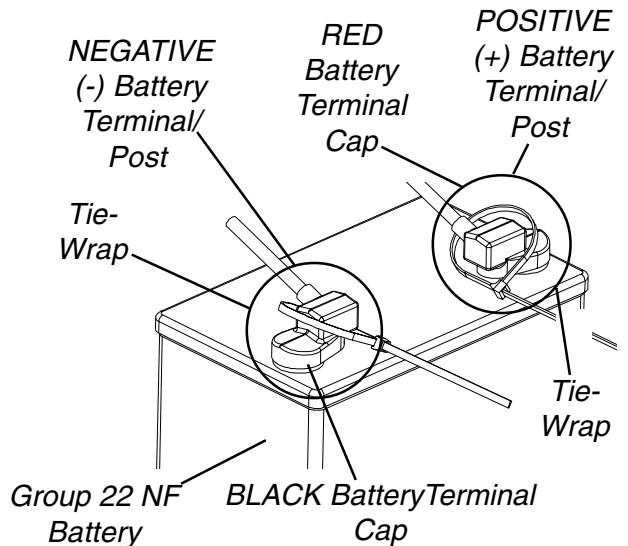

FIGURE 3 - CONNECTING BATTERY CABLES - DIRECT MOUNT METHOD
3. Secure the battery cable(s)/ring terminal(s) to the battery terminal(s)/post(s), BLACK to NEGATIVE (-) and RED to POSITIVE (+), with the provided 1/4-20 x 7/8-inch hex flange screw and hex flange locknut. Securely tighten. (DETAIL "A" or DETAIL "B" of FIGURE 3, depending on battery type).
5. Slide terminal cap(s) down battery cable(s) and onto battery clamps (FIGURE 3).
6. Secure each terminal cap in place with a tie-wrap (Use tie-wraps 11-1/2-inches long) (FIGURE 3).
8. Install the battery box(es) into the wheelchair. Refer to INSTALLING/REMOVING BATTERY BOX(ES) in this procedure of the manual.